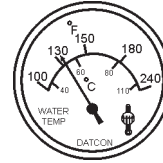

Figure 48. Coolant Temperature Gauge
12. The **coolant temperature gauge** (Figure 48) will indicate the coolant temperature. Under normal operating conditions the coolant temperature should be between 167°~203°F (75°~95°C) (**Green Zone**).